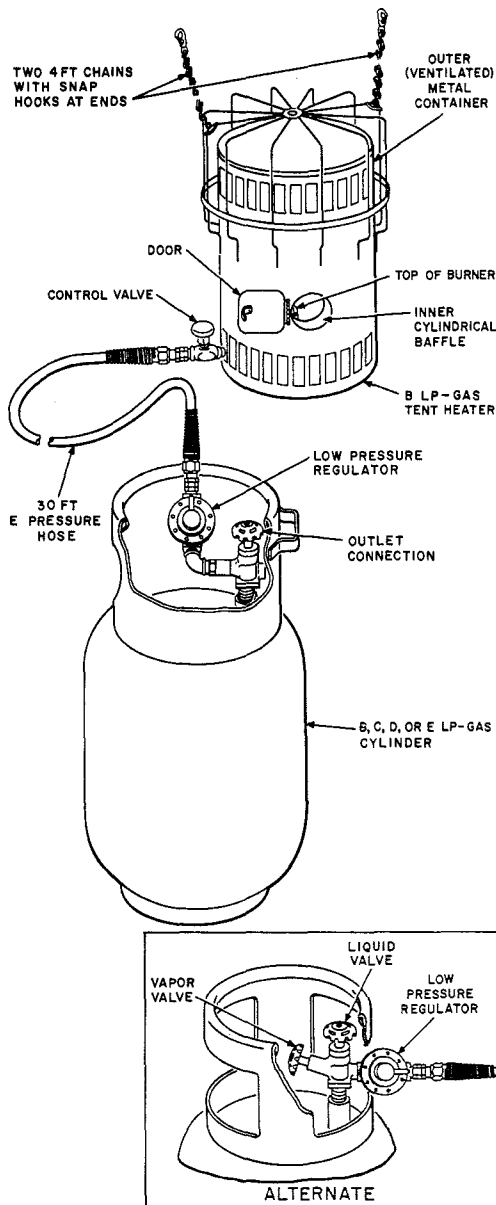

Fig. 2—Heater Connected to Cylinder
1.02 This section is reissued to update Fig. 2 and to make minor text changes.
4.01 Connect the low pressure regulator to the LP-Gas cylinder. Connect one end of the E Pressure Hose to the pressure regulator and the other end to the valve control on the tent heater (Fig. 2). Using the B or C Regulator Wrench tighten connections on the regulator and hose.